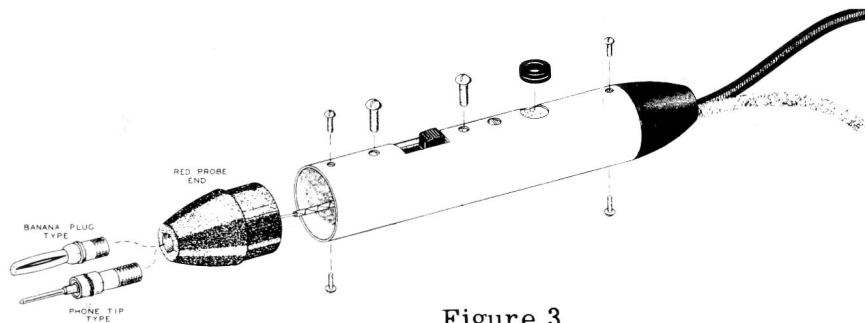

Figure 3
- ( ) Now slip the completed switch-trimmer assembly into the probe body and secure the switch with two 4-40 screws. Secure the black probe end with two 2-56 self-tapping screws. Be sure the ends of the shielded lead and flat braid are between the black probe end and the probe body, to provide a ground connection for the probe body. The "flat spot" on the probe end will provide the necessary clearance. (Refer to Figure 3.)